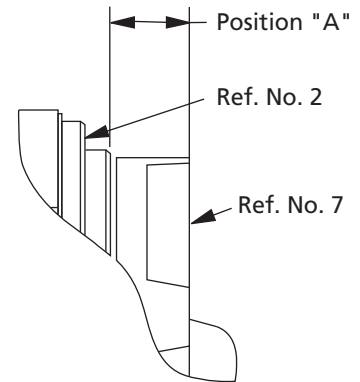

Figure 3
- By replacing the original shims that came with the pump, the impeller height should be properly set. The chart accompanying Figure 3 gives the correct adapter to motor height dimension for optimum pump performance. After installing, check to see if shaft turns freely by spinning impeller. If rubbing or binding is found, remove impeller and add a shim (Ref. No.6) to shaft, then recheck. Repeat procedure until all rubbing is eliminated.